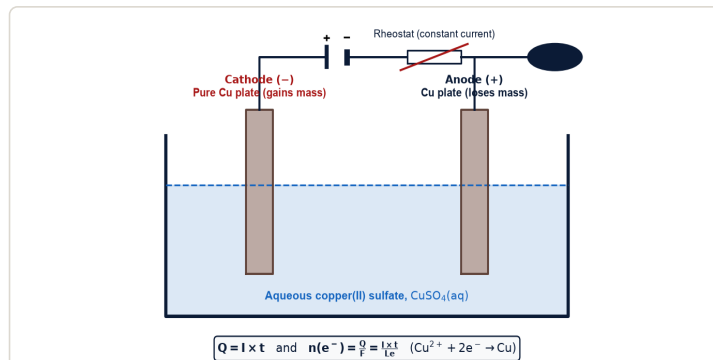

Fig. 1.1: Quantitative electrolysis circuit for determining mass of copper deposited at the cathode.
A constant current of 0.850 A is passed through aqueous copper(II) sulfate for exactly 40.0 minutes using the apparatus shown in Fig. 1.1.